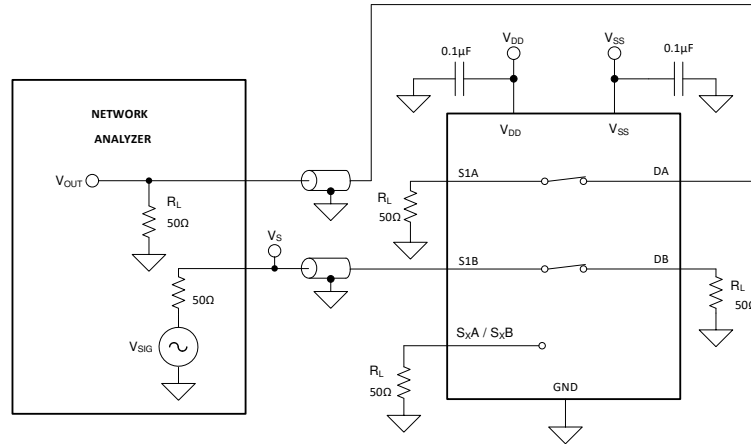

Figure 6-9. Crosstalk Measurement Setup
Crosstalk is defined as the ratio of the signal at the drain pin (D) of a different channel, when a signal is applied at the source pin (Sx) of an on-channel. Figure 6-9 shows the setup used to measure, and the equation used to compute crosstalk.